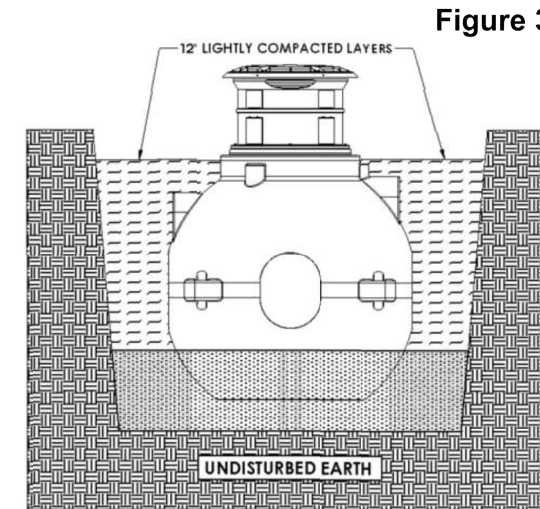

Figure 3
- Backfilling Exterior [Figure 3 & 4]**
- Backfill around the perimeter of the tank in 12" layers. Lightly compact each layer. NEVER BACKFILL ON ONE SIDE ONLY. BACKFILL ALL OF THE OUTLINE OF THE SEPTIC TANK UNIFORMLY IN 12" LAYERS. [Figure 3].